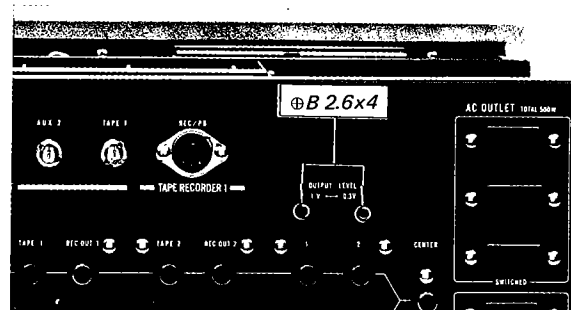

Fig. 2-8. Rear view
2. Remove the two screws ($\oplus$ B 2.6 $\times$ 4) securing the OUTPUT LEVEL changeover switch to the rear panel as shown in Fig. 2-8.